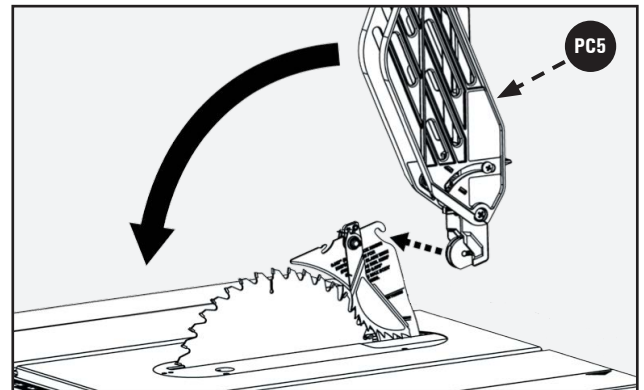

FIGURE 14
2. Rotate the Blade Guard Assembly toward the front of the Saw until the support arms of the Blade Guard Assembly are parallel to the Table as shown in Figure 14.